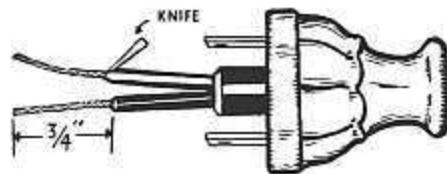

Figure 1 (Ready to Wire Plug)
cord back two inches. Be sure no bare wire shows in long split section (Figure 1).
4. Use knife to strip insulation off wire for $\frac{3}{4}$ " on end of each cord. Be careful. Don't cut yourself. Don't cut wires. Use a light touch, slope the knifeblade and slice with knife edge away from you (Figure 1).